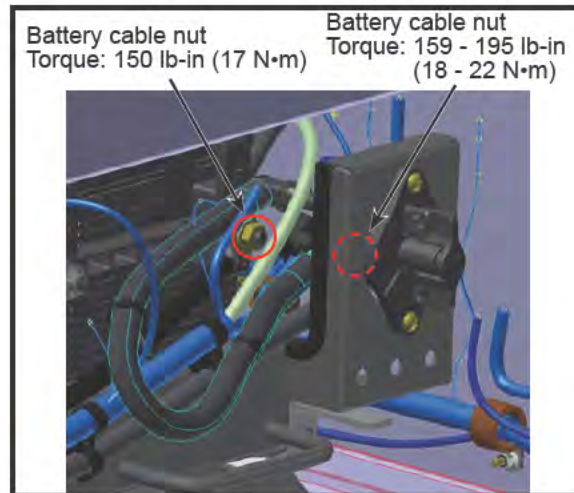

Figure 7 - Torque Values for Battery Connections
- 1.8. Tighten the battery cable nuts. See Figure 7 for torque specifications.